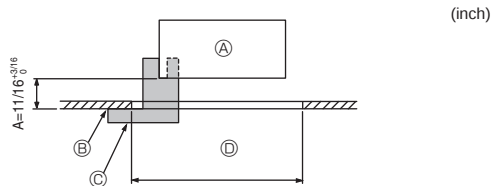
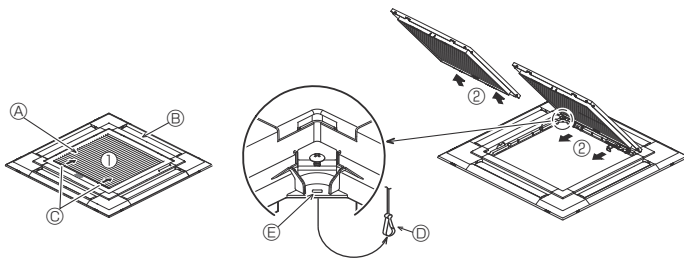
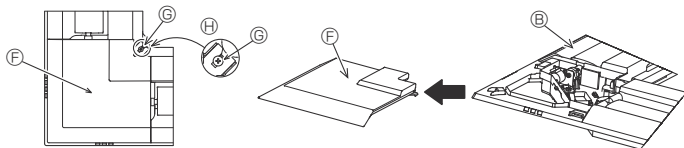

Fig. 6-2
Fig. 6-3
Fig. 6-4
①	Grille	1	950 × 950 (mm), 37-13/32 × 37-13/32 (inch)
②	Gauge	1	Divided into 4 parts
③	Screw (4 × 16)	1	For PLFY-WL-NEMU-E(1)
④	3D i-see Sensor corner panel	1	For PLFY-WL-NEMU-E(1)
6.2. Preparing to attach the grille (Fig. 6-2)
- With the gauge ② supplied with this kit, adjust and check the positioning of the unit relative to the ceiling. If the unit is not properly positioned relative to the ceiling, it may allow air leaks or cause condensation to collect.
- ① Main unit
② Ceiling
③ Gauge ② (inserted into the unit)
④ Ceiling opening dimensions
6.2.1. Removing the intake grille (Fig. 6-3)
- Slide the levers in the direction indicated by the arrow ① to open the intake grille.
- With the intake grille in the "open" position, remove the hinge of the intake grille from the grille as indicated by the arrow ②.
6.2.2. Removing the corner panel (Fig. 6-4)
- Loosen the screw from the corner of the corner panel. Slide the corner panel as indicated by the arrow ① to remove the corner panel.
- [Fig. 6-3] [Fig. 6-4]
① Intake grille
② Grille
③ Intake grille levers
④ Grille hook
⑤ Hole for the grille's hook
⑥ Corner panel
⑦ Screw
⑧ Detail